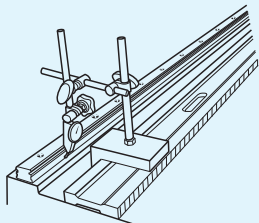
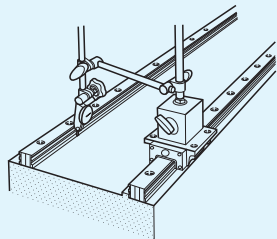

Fig. 40 Method with straight-edge
Fig. 41 Method to use reference side Linear Way
③ Method with straight-edge
- After temporary fixing of the track rail, apply an indicator to the reference mounting surface of the track rail as indicated in Fig. 40 and fix them from one end of the track rail in order referring to the straight-edge while maintaining straightness.
① Method to use reference mounting surface
② Method to follow the reference side track rail
④ Method to use reference side Linear Way
- Fix a measurement stand onto the upper surface of the reference side slide unit as indicated in Fig. 41, place an indicator onto the reference mounting surface of the driven side track rail, and fix them from one end in order while maintaining parallelism.